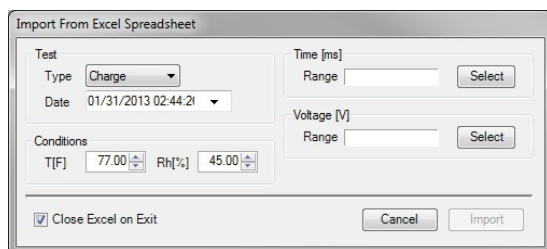

Figure 42: Autoanalysis Excel Spreadsheet Import Window
3. The source file and an Autoanalysis import window (Figure 42) will be opened and superimposed on the sheet. The **Import From Excel Spreadsheet** window allows designation of the data to be imported for analysis by the Autoanalysis software.